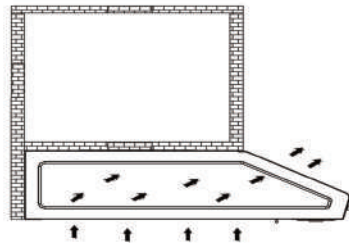
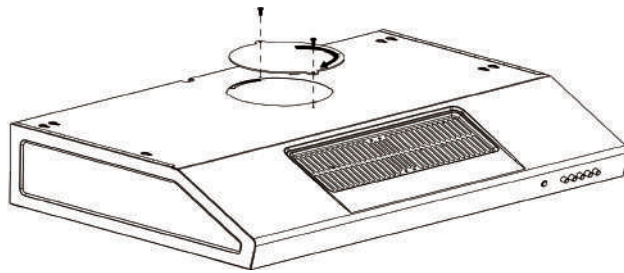

Fig 3
Fig 11
-To remove the grease filter/s (Fig.3), in line with the handle, push the stop inwards and pull the filter down.
-If the hood features a panel type charcoal filter (Fig.11), remove the charcoal filter by first of all removing the two filter retainers A.
-If the hood features a panel type charcoal filter/s(Fig.11), position the charcoal filter and fit the two filter retainers to secure the charcoal filter.
Aluminum filter/s (Fig.11): there are aluminum mesh filters must be periodically cleaned, depending in extent of depending on extent of operation (at least every two months). Wash the filters with neutral detergent. To remove the filters, in line with the handle, push the stop inwards and pull the filter down (Fig.3).
-remove the charcoal filter by first of all removing the two filter retainers A.(Fig.11)